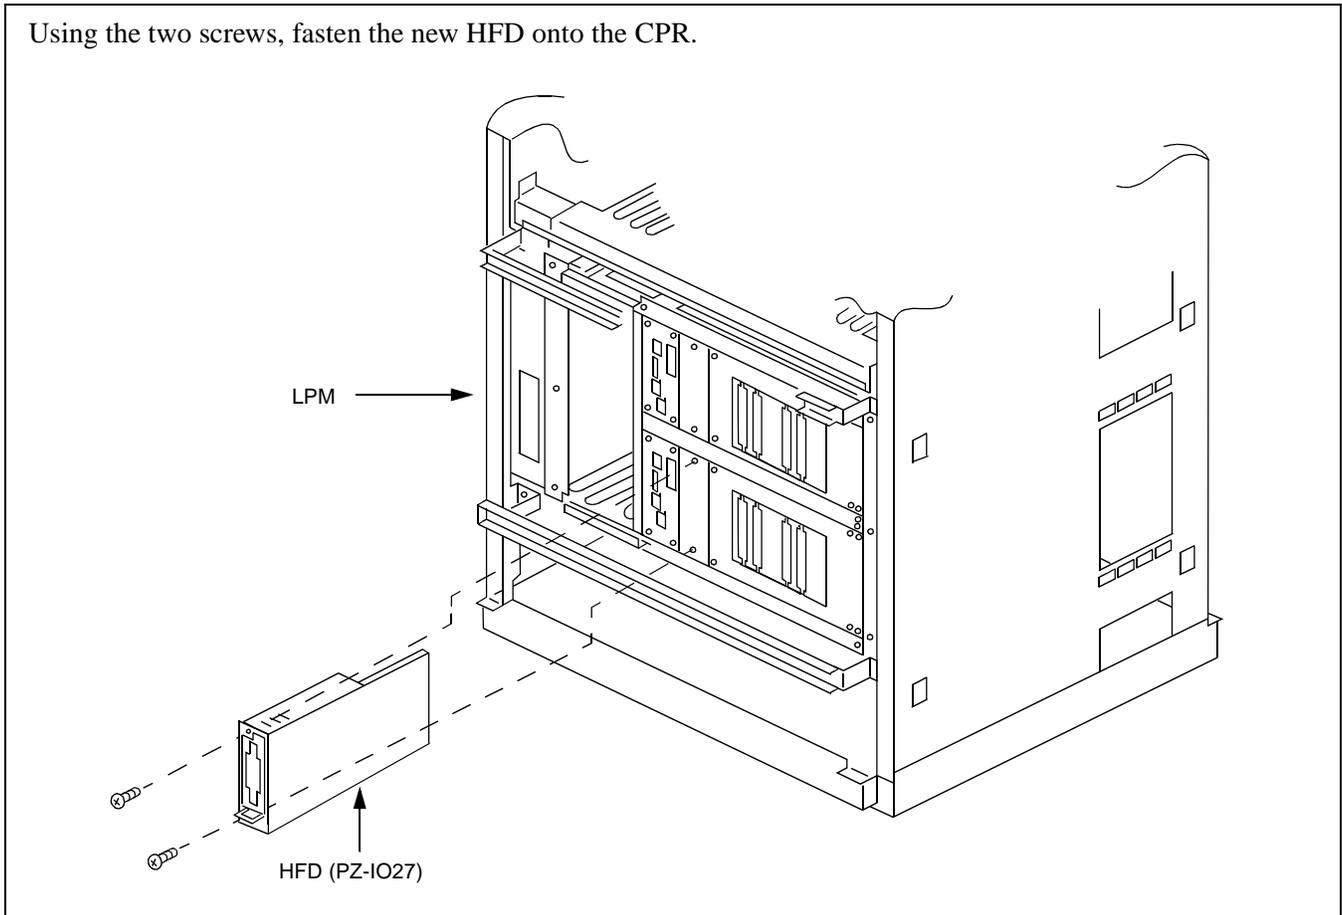

Figure 009-8 Insertion of New HFD into CPR
5. Insert the new HFD (PZ-IO27/28) into the CPR. Then, fasten the two screws. (Refer to Figure 009-8.)